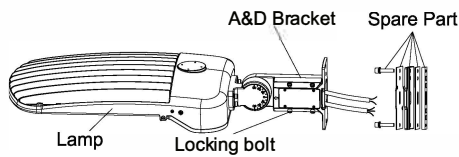

Figure 19
Step 1: Remove the spare parts from A&D bracket. (Figure 19)